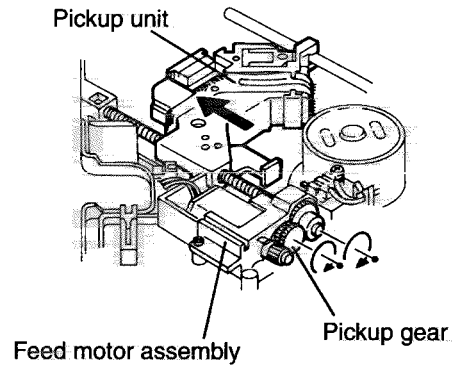

Fig.11
5. While tuning the pickup gear in the arrow direction as shown in Fig.11, shift the entire pickup unit.